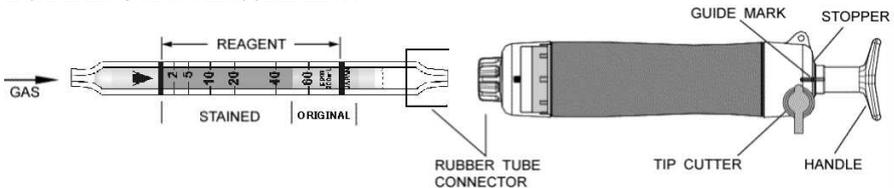

Fig.1
- ① Break both ends of the detector tube.
- ② Insert the detector tube into the aspirating pump securely as shown in Fig.1. (Arrow mark shall point to the pump.)
- ③ Align the guide marks on the shaft and stopper of the aspirating pump.
- ④ Pull the pump handle at a full stroke until it locks and wait for 1.5 minutes or until the completion of sampling is confirmed with the flow indicator of the pump (See descriptions about the flow indicator in the instruction manual of the pump).
- ⑤ Push back the handle without removing the detector tube from the rubber tube connector so that air in the pump will be discharged perfectly. Then repeat the step ③~④ once more.
- ⑥ On completion of sampling, read the scale at the maximum point of the stained layer.